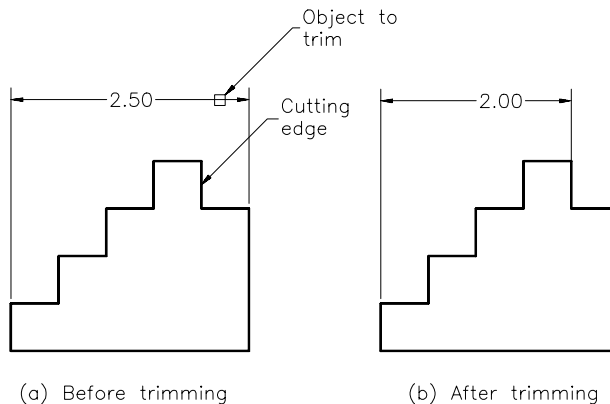

Figure 9-6 Drawing for Exercise 2
Use the **Edge > Extend** option of the **TRIM** command to trim the dimension given in Figure 9-6(a), so that it looks like Figure 9-6(b).
1. Make the drawing and dimension it, as shown in Figure 9-6(a). Assume the missing dimensions.